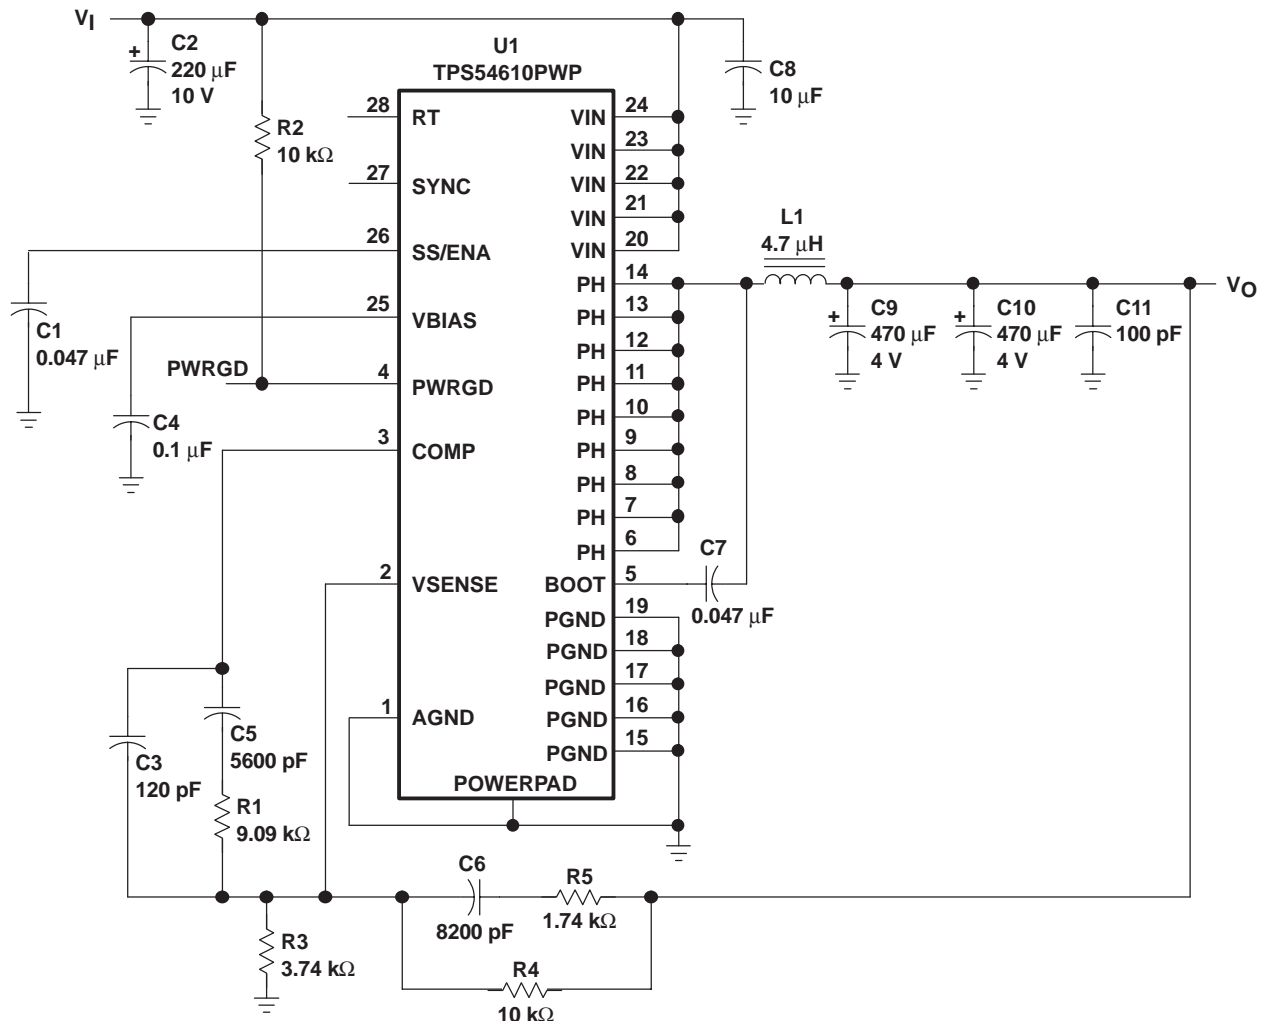

Figure 10. Application Circuit
(1) Specified by design
(2) Static resistive loads only
(3) Specified by the circuit used in Figure 10
(4) Matched MOSFETs low-side r_{DS(on)} production tested, high-side r_{DS(on)} specified by design
Figure 10 shows the schematic diagram for a typical TPS54610 application. The TPS54610 (U1) can provide greater than 6 A of output current at a nominal output voltage of 3.3 V. For proper thermal performance, the